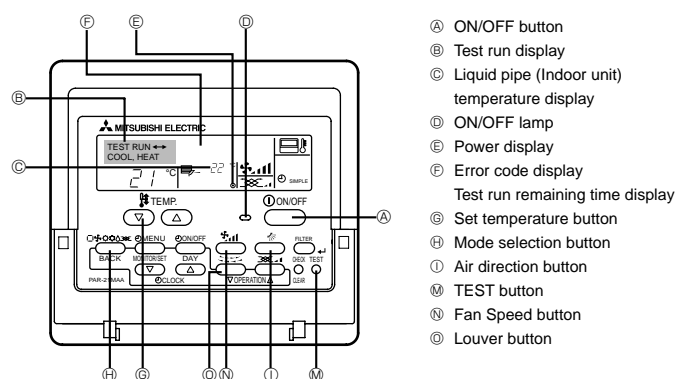

Fig. 6-1
6. Test run (Fig. 6-1)
Using wired remote controller (Fig. 6-1)